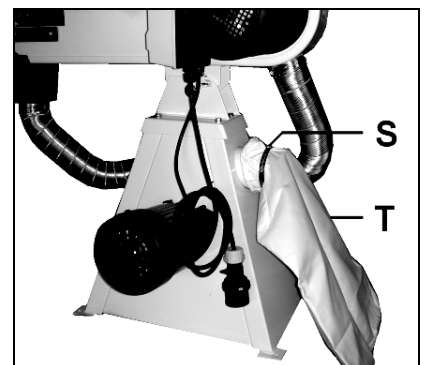

Fig 8
Attach the filter bag (T, Fig 8) with the supplied hose clamp (S).